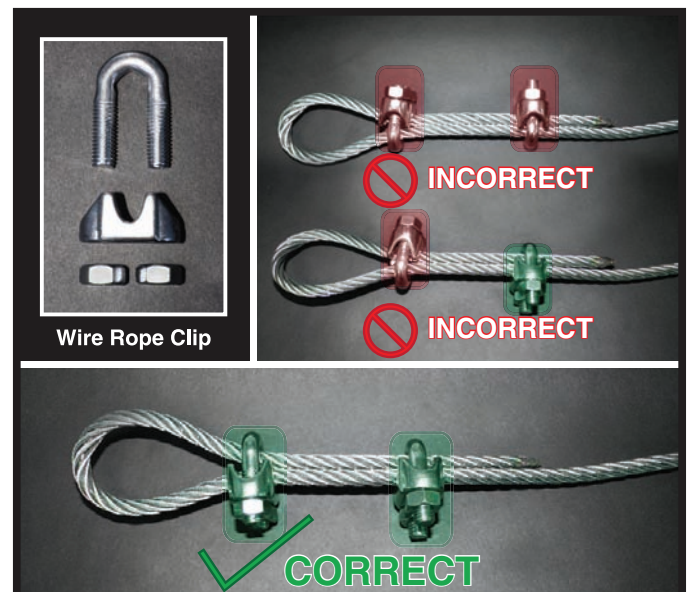

Figure 2: Correct assembly and use of wire rope clips.
When applying U-Bolt over dead end of wire rope – live end rests in saddle. Tighten nuts evenly, alternating from one nut to the other. **See Figure 2 on Page 3.**
6. Close the loop by applying a wire rope clip. Secure the loop with the second wire rope clip as tightly as possible. See **WARNING Note 5** and **Figure 2.**
5. Close the loop by applying a wire rope clip. Secure the loop with the second wire rope clip as tightly as possible. **See WARNING Note 5 and Figures 2 & 4.**